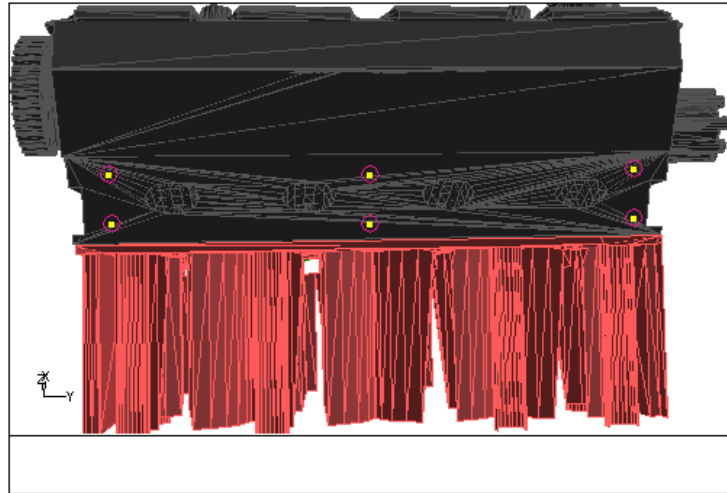

Figure 7.6: Nodes Selected to Close Holes in the f\_v8-top-right Zone
- (g) Select the six positions shown in Figure 7.6 using the right mouse button.